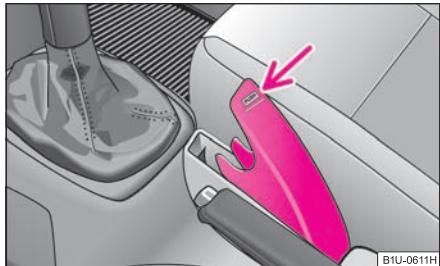

Fig. 89 Centre console: Storage compartment for spectacles
- Press on the cover of the storage compartment at the point of the arrow, the compartment opens or closes ⇒ fig. 89.